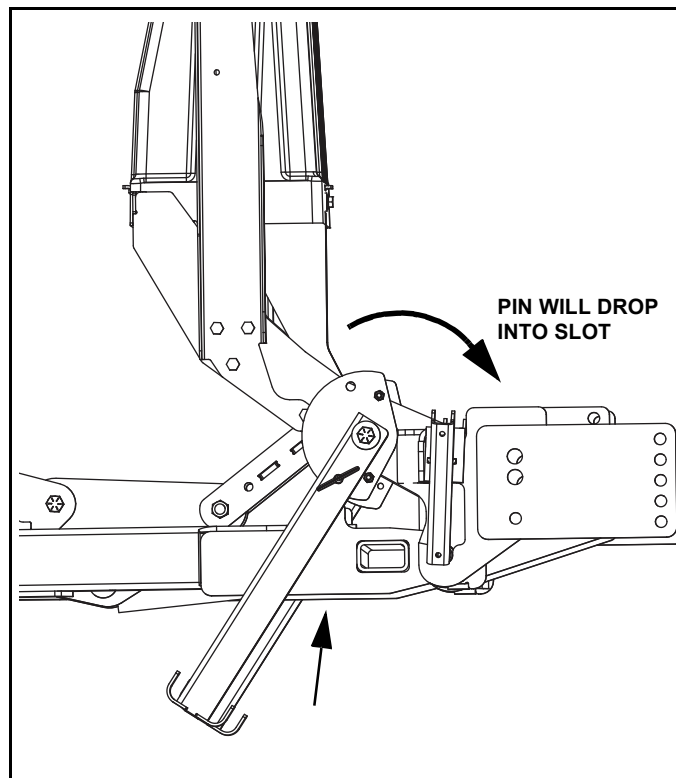

Figure 1-18
3. Rotate light/lift bar into position by turning on down pressure and pressing the lower function (See Figure 1-18).